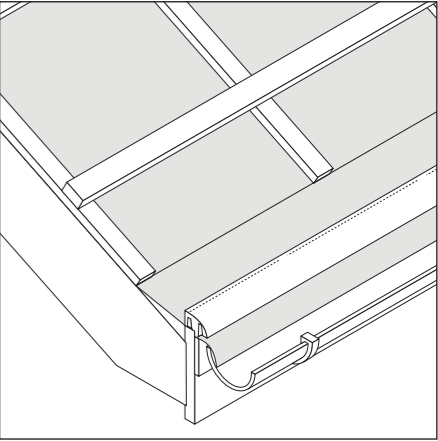

Fig 9 – 10mm Eaves Vent System PLUS
- 1 Install the roofing underlay over the rafters, ensuring sufficient drape into the gutter (Fig 9).